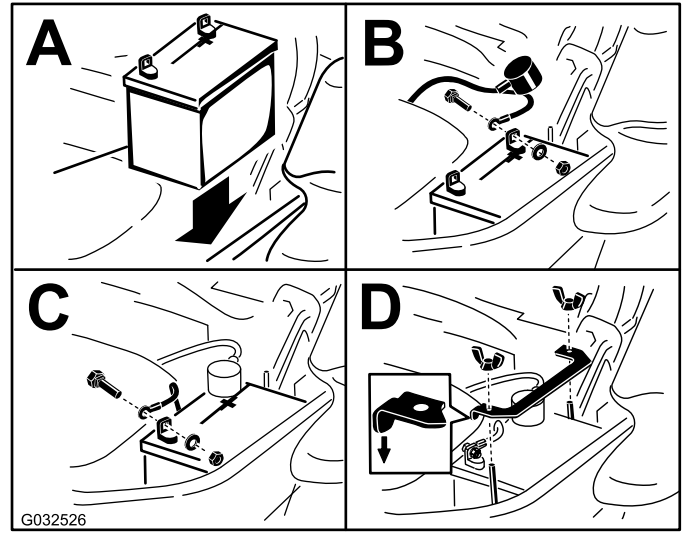

**Figure 58**
3. When the battery is fully charged, unplug the charger from the electrical outlet, then disconnect the charger leads from the battery posts (Figure 58).